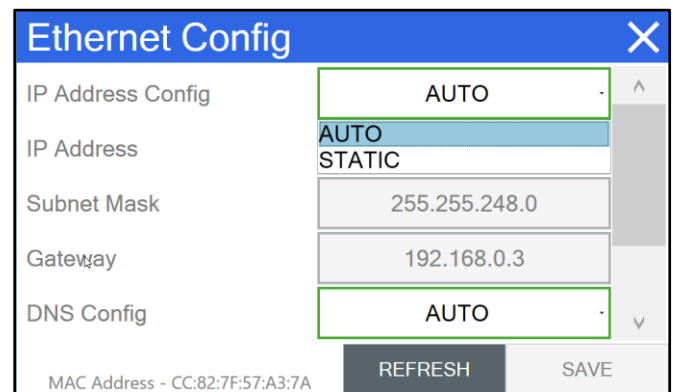

Figure 4-48 Ethernet Connection Port
**Figure 4-48** shows the location of the ethernet port at the back of the OPX 1025. This is where the ethernet cable needs to be connected to use the instrument's networking capabilities.